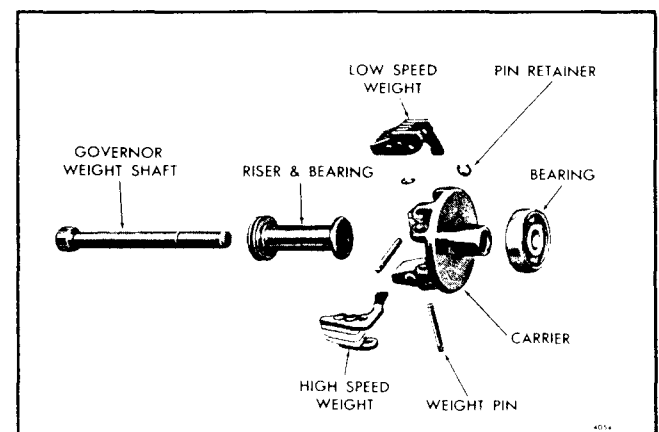

Fig. 10 - Governor Weight Details and Relative Location of Parts
1. Remove the retaining rings from the governor weight pins (Fig. 10). Then, drive the pins out by tapping on a punch held against the grooved end of the pins. Remove the governor weights.
Refer to Fig. 10 and assemble the governor weights and shaft as follows: